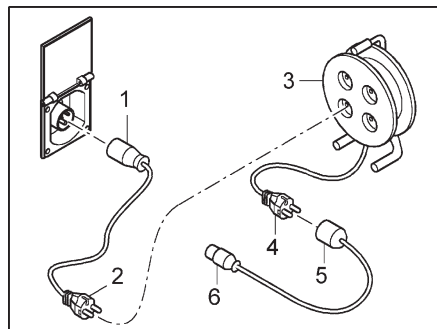

Fig. 147 Connection options for 230 V power connection
CEE17 socket with earth contact (Fig. 147,1)
– Plug with earth contact (Fig. 147,2)
Socket with earth contact (Fig. 147,3) – Plug with earth contact (Fig. 147,4)
Socket with earth contact (Fig. 147,5) – CEE 17 plug with earth contact (Fig. 147,6)